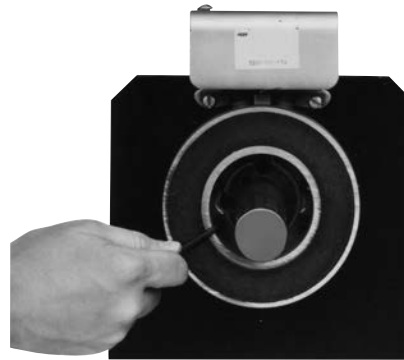

Figure 2
3. Once the mounting surface has been prepared the magnet is bolted in place with capscrews and lockwashers. (See Figure 2)